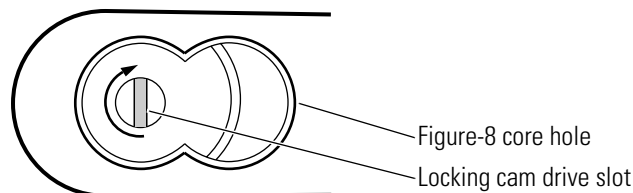

Figure 3.34 Correct position of the G and IN function locking cam
- Before you install the core and throw member, you can see that the locking cam is not positioned as shown in Figure 3.34. Perform the following steps to reposition the locking cam.
1. Looking through the figure-8 core hole in either lever, turn the locking cam drive slot to match the position shown in Figure 3.34.
4. Turn the drive slot clockwise to match the position shown Figure 3.34.